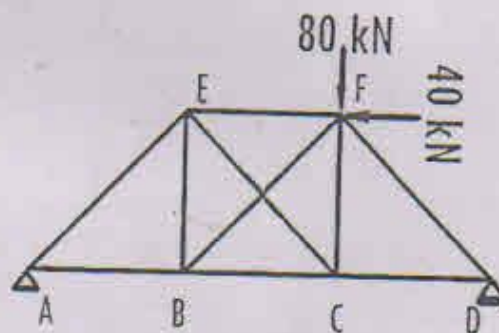

Figure 6
- (b) Describe the advantages of stiffness method. (5)
7. (a) What is the static indeterminacy and kinematic indeterminacy for the frame? (5)
- (b) Using unit load method, determine the vertical deflection of the joint F of the pin jointed truss shown in figure 6. The support A and D are hinged and roller support respectively. The area of the all the members are 150 mm^2 . Take $E = 200 \text{ kN/mm}^2$ and consider $AB = BC = CD = BE = FC = 4 \text{ meter}$. (10)